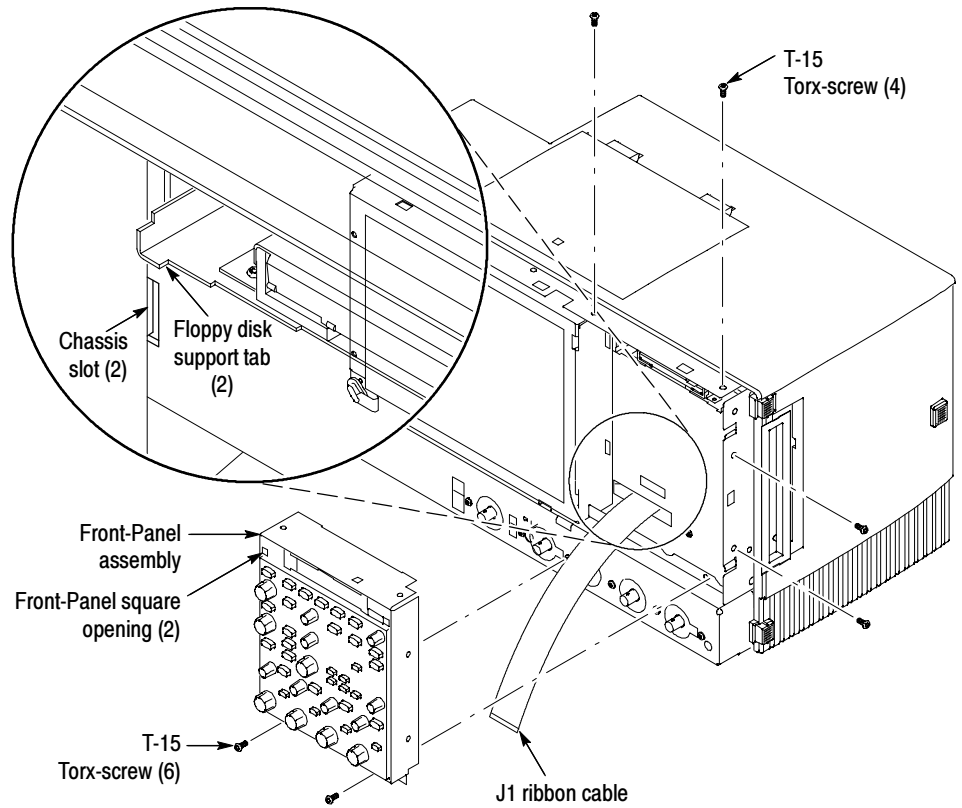

Figure 9: Front-panel assembly removal
2. Remove the Front-Panel assembly, see Figure 9 on page 15.
- c. Insert the two floppy disk support tabs into the Front Panel square openings. Both left Front-Panel tabs must go into the chassis slots. See Figure 9 on page 15.